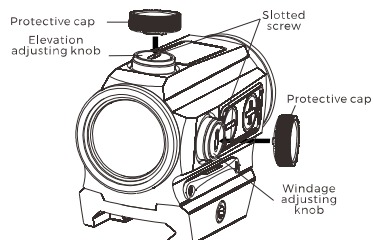

Fig 6
1. The elevation adjustment turret is on top of the sight, the windage adjustment turret is on the right side (see Fig 6). The sight has been factory adjusted for approximate zero.
2. The screw driver tool on the protective cap can be used for zeroing adjustment (see Fig6). See label inside cap.